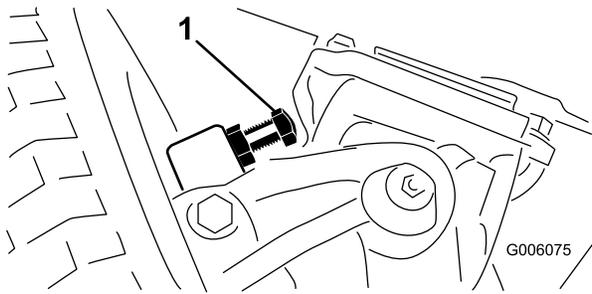

Figure 60
1. Thread the bolts in or out until the .090 inch clearance is attained (Figure 60).